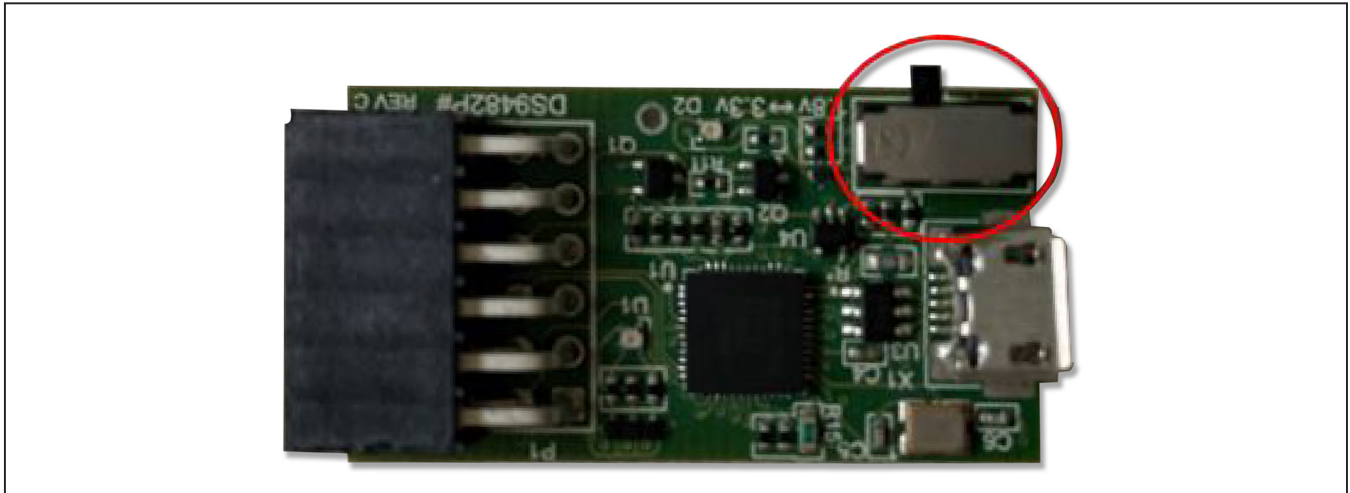

Figure 9. Set DS9482P# to 3.3V
- d. Set the DS9482P# switch to 3.3V as shown in Figure 9.